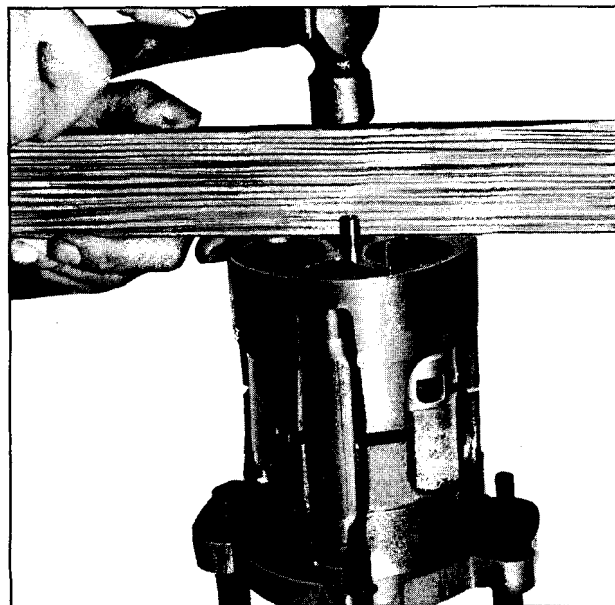

Fig. 1A-87 Installing Rear Cylinder Half on Front Cylinder Half
12. Align rear cylinder casting with bores, suction passage, discharge crossover holes, dowel pins, etc. Tap into place using a hard wood or plastic block and mallet (Fig. 1A-87).